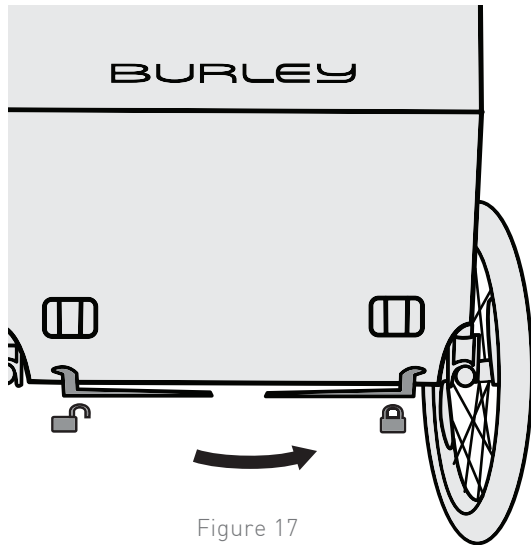

Figure 17
1. To lock the brake, slide the lever to the right (Figure 17). To release the brake, slide the lever to the left.